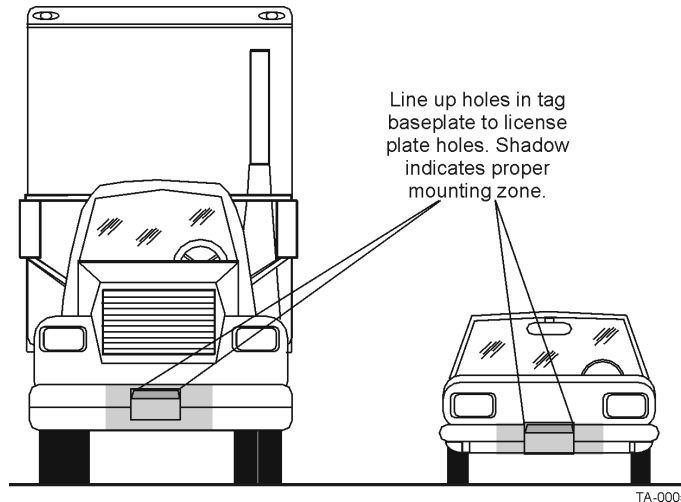

Figure 17 Mounting Locations for the LPT
2. Position the LPT so that it is within 18 inches (46 cm) of the center of the front bumper as shown by the shaded area in Figure 17. If your vehicle's license plate mounting area is more than 18 inches (46 cm) from the center, you may need to select an alternate location to mount the tag. Contact your tag agency if your vehicle requires an alternate mounting location for the LPT.